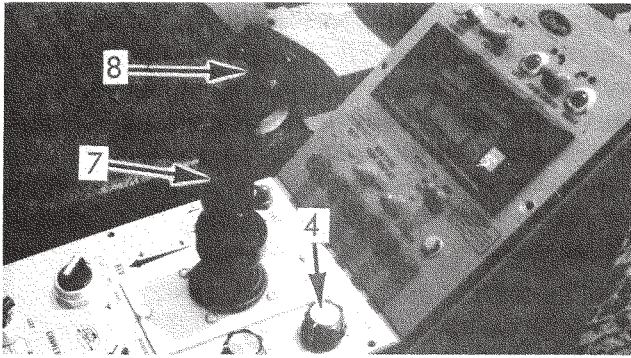

Figure 8. Speed/Direction Control Handle
7. Manual Speed/Direction Control Handle. (Figure 8)
8. Gate/Spread Roll Switch. (Figure 8)